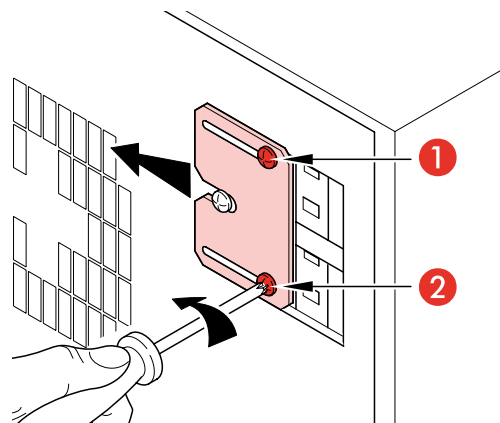

Fig. 5.
1. Loosen screws **1** and **2** shown in figure 5, but do not unscrew them completely.